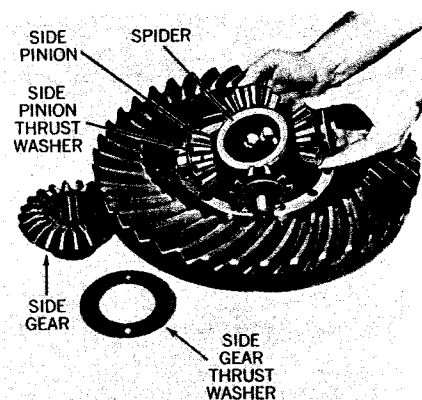

Fig. 100.
2. Refer to figure 100. Remove left-hand side gear and thrust washer then lift out differential spider, side pinion and thrust washer assembly. Remove right-hand side gear and thrust washer from flanged differential case.